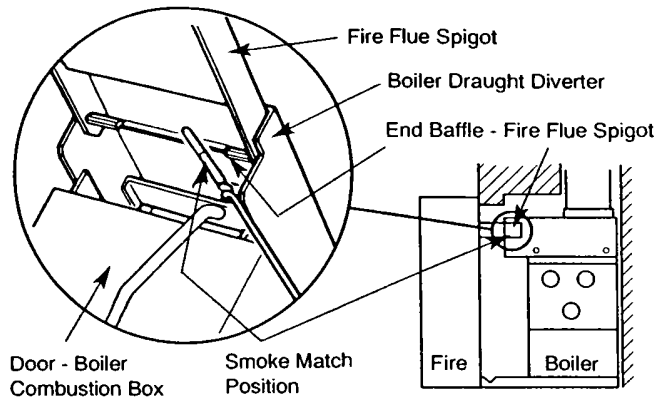

Fig. 8 Spillage Test
- (c) After 5 minutes take a smoke match and insert it into the boiler draught diverter in the position shown (Fig.8). If the majority of the smoke is not drawn into the chimney spillage is indicated and the fire must be operated for a further 10 minutes before rechecking. If spillage is still evident the cause must be ascertained and rectified before continuing with commissioning.